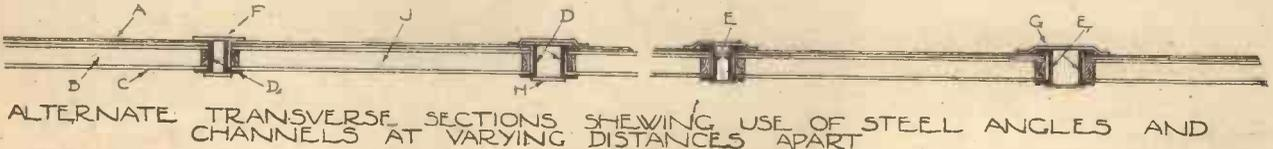

FIG. 92.
Steel beams of various sections will probably find much favour in pre-built housing work because of the following good reasons: (1) with structural essentials being equal for steel and timber, a steel beam may be of much less depth than one of timber; (2) there is very little difference in the weights of a steel and timber beam; in the example illustrated the steel weighs 12lb. and the timber 9lb. foot run; (3) the flange of the steel beam provides adequate support for the units and therefore obviates the necessity for using special formations as is necessary if timber is used; and (4) the ends of steel beams may be very strongly connected to stanchions or other structural parts of walls and partitions. Fig. 92 shows the use of steel angles and steel channels. Although these may not be so economical in steel as using the ordinary British Standard beam (H), there are certainly advantages which should not be overlooked, viz.: that angles or channels in twin formation may be set apart at reasonable variations to suit dimensional fluidity in the roof, an asset which can be valuable because it will allow the use of standard width roof units for variation in room width up to, say, 12ins. Of course, variations in the distances apart of
Fig. 92.—A—Roofing material on its sheet foundation. B—Roof units. C—Ceiling. D—Steel angles. E—Steel channels. F—Flat cover strip forming rain-tight joint. G—Capping. H—Soffit lining fixed to blocks between steel members or by hangers from top of beam. J—Roof unit of standard width and any dimensional fluidity being obtained by varying the distance apart of the steel beams which are in twin formation.